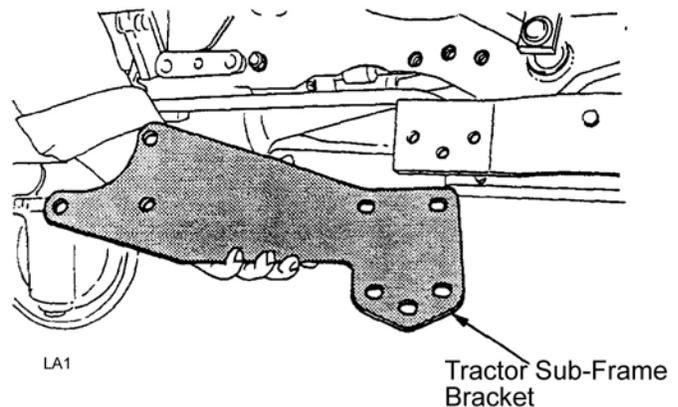

Figure 1. Remove Tractor Front Sub-Frame Brackets (B3200)
4. Remove tractor sub-frame brackets from both sides of the tractor, shown in Figure 1.